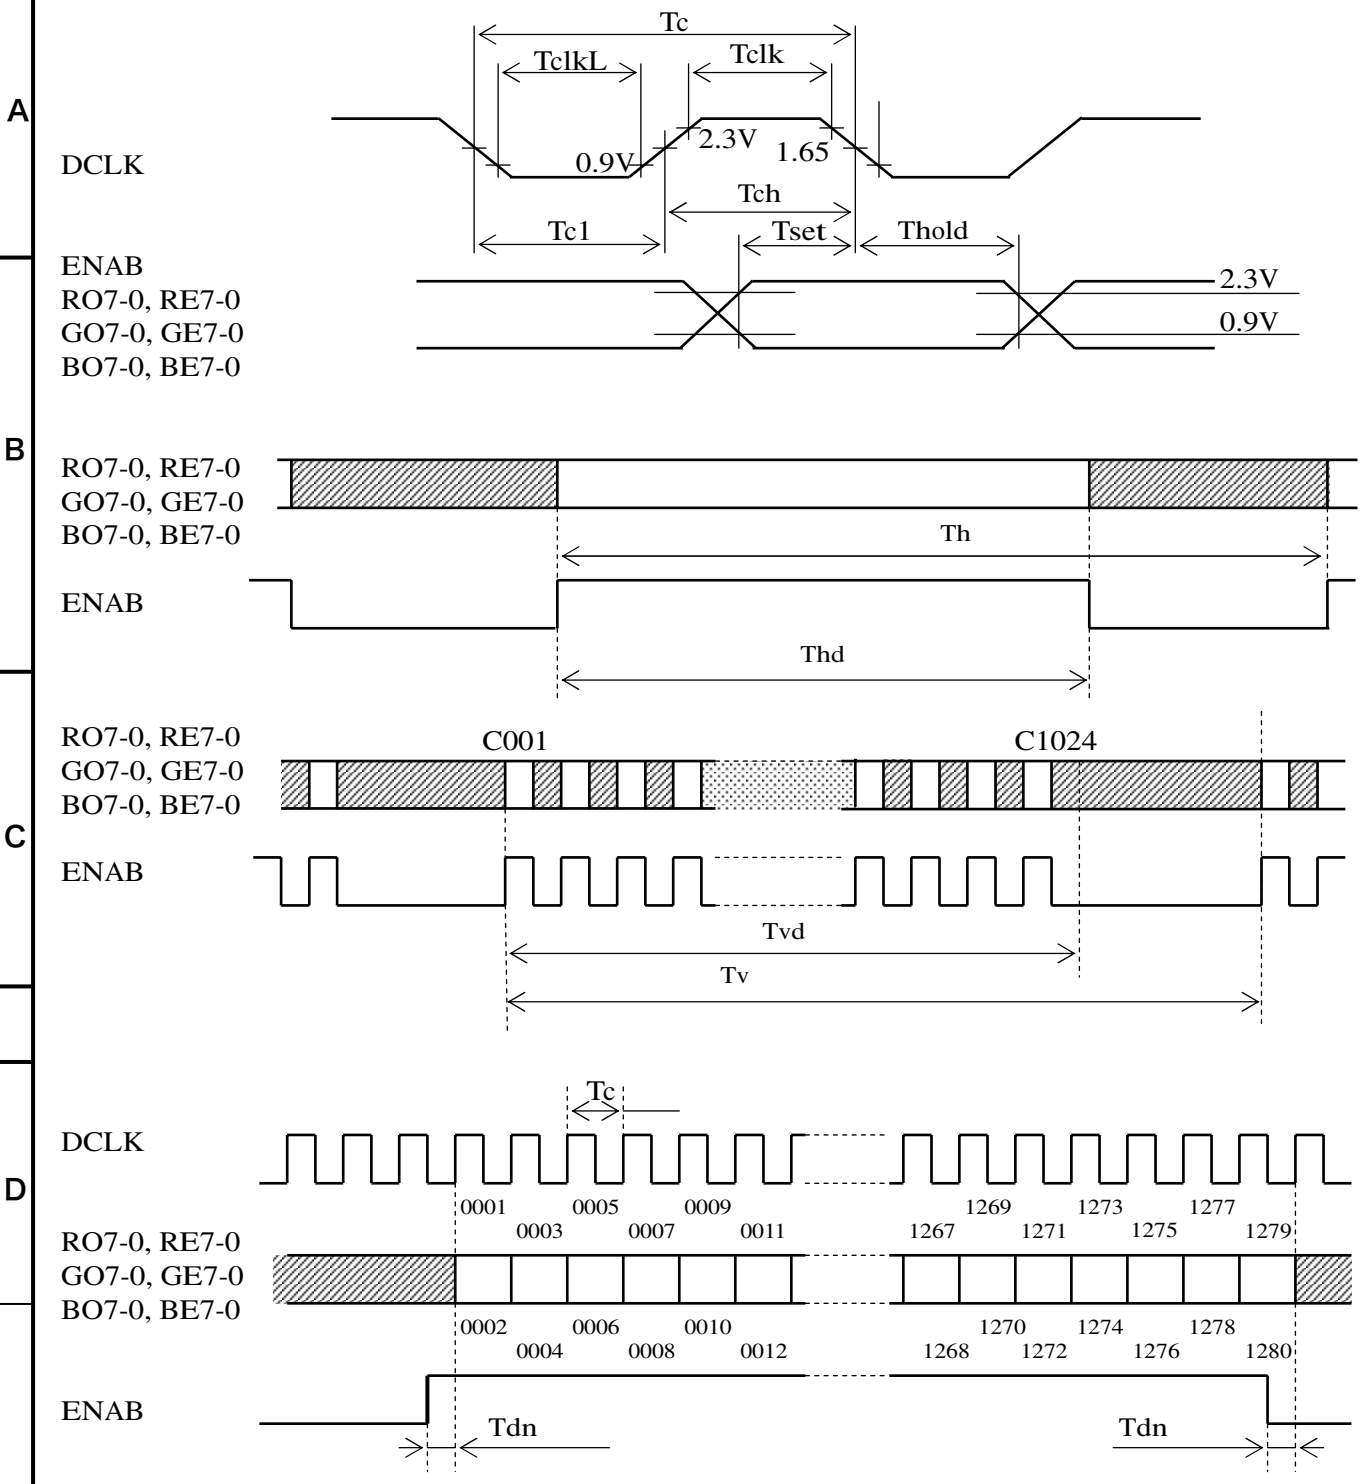

Figure 10-1 Input Signal Timing Chart
② Table 10-4 and Figure 10-1 shows the Input Signal Timing at LVDS transmitter.